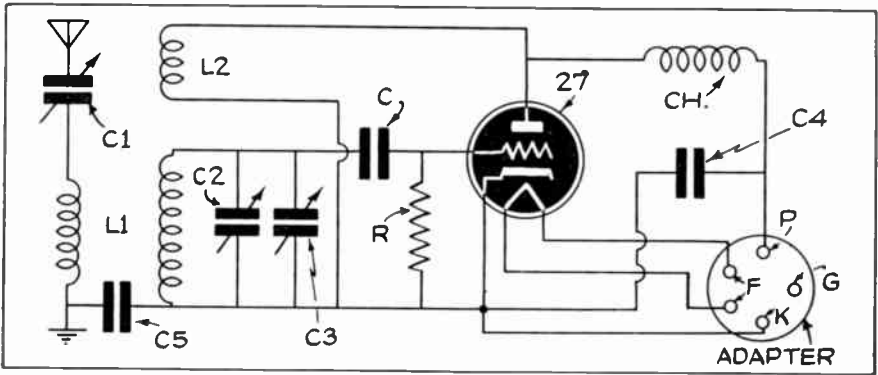

Fig. 35
(A) A circuit arrangement of a short-wave adapter using the type '27 tube is depicted, in Fig. 35, in answer to this query.